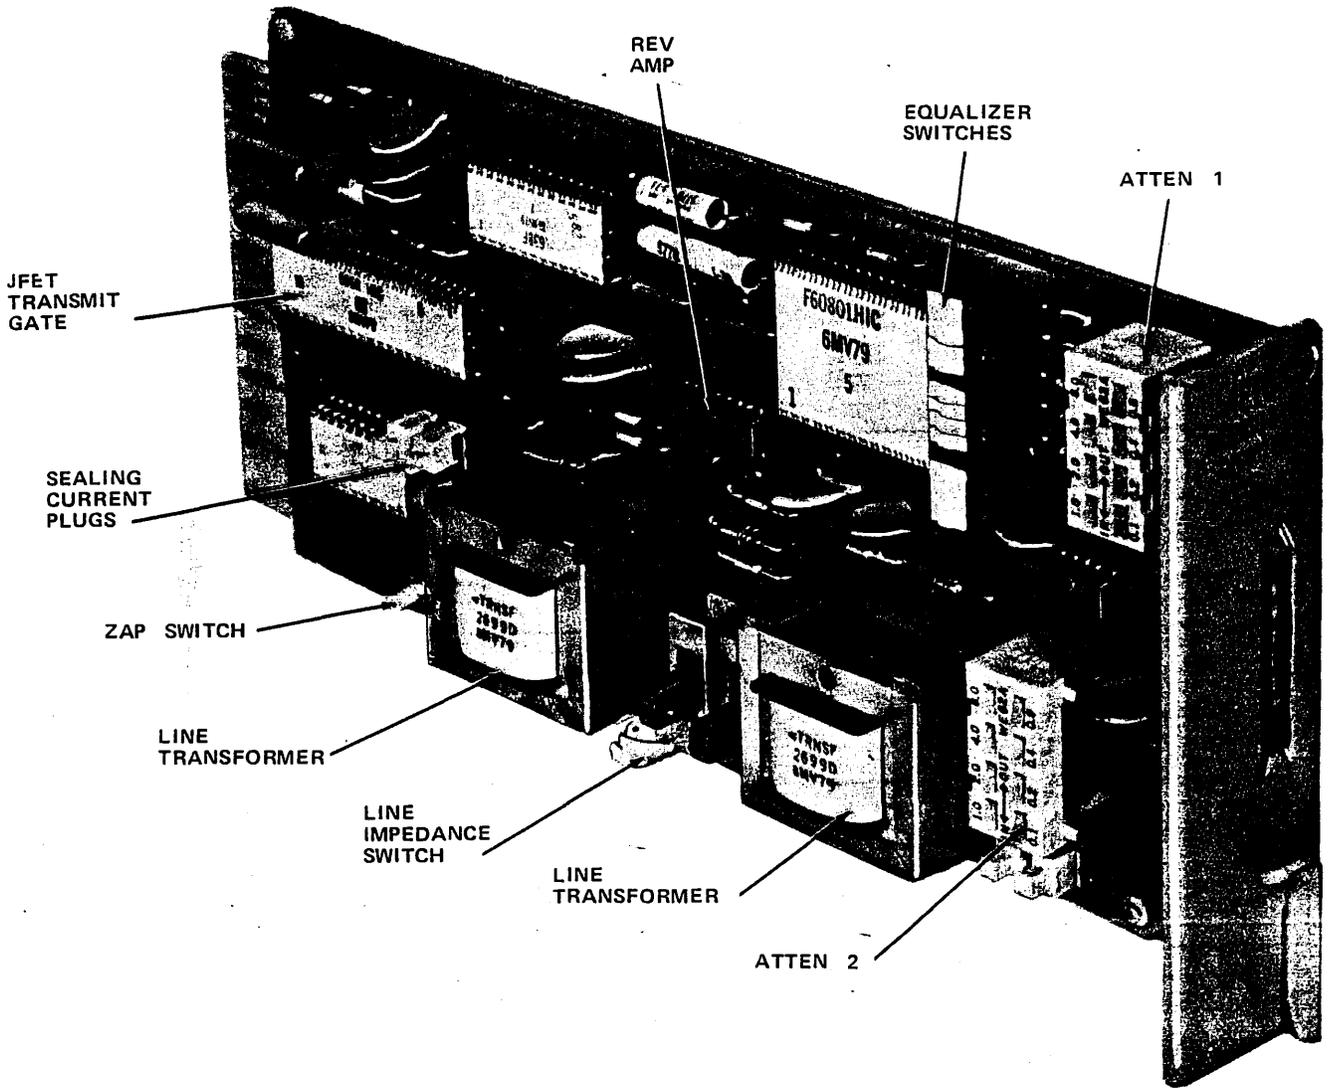

Fig. 2—4-Wire Equalized Transmission Only (4ET0)
2.03 The 4ETO (Fig. 2) unit is provided to interface the D4 bank with relatively long 4-wire metallic extensions where no signaling is required or where inband end-to-end signaling (eg, a private line for data transmission) is used. The unit contains all gain and active equalization circuits required on all loaded or nonloaded 4-wire extensions with 1-kHz losses up to 15 dB. It also contains the dc loop-sealing current option for extensions with hand-wrapped splices.